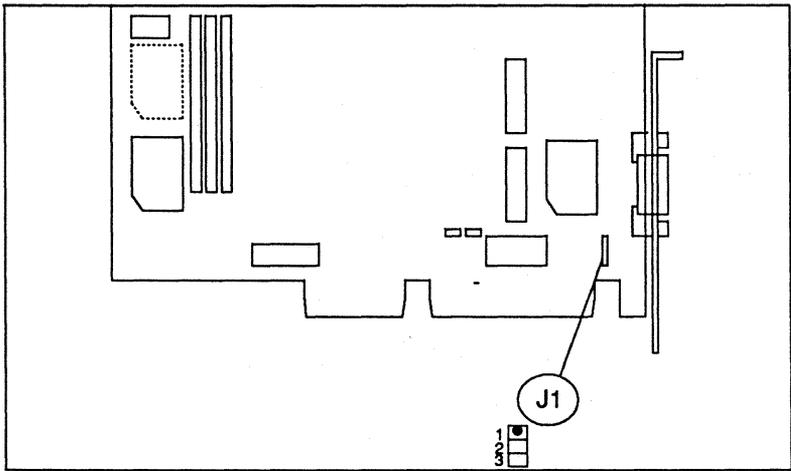

Figure 2-3 External Sync Jumper Setting
If your monitor must use **external sync**, you need to change jumper one (1) as shown in figure 2-3 from its position on pins one (1) and two (2) to pins two (2) and three (3). Gently pull the jumper off the first two pins, then carefully insert it on pins 2 and 3, making sure that you do not bend the pins with undue force.